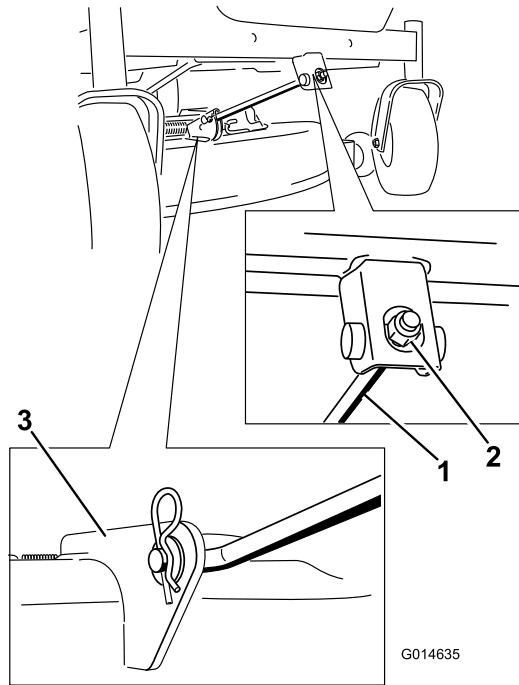

Figure 56
6. Attach the front support rod to the mower deck with the clevis pin and hairpin cotter (Figure 56).